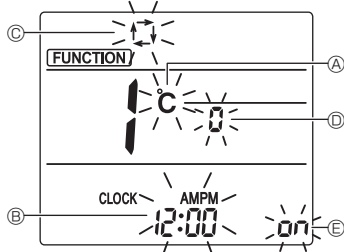

Fig. 4-11
3. Check that function No. "1" is displayed, and then press the **SET** button ③.
- The Screen display setting screen will be displayed. (Fig. 4-11)
- Press the **UP** button ④ to change the function No.
4.12.2. Changing the temperature unit (Fig. 4-11 Ⓐ)
- Press the **TEMP** button ⑤.
- Each time the **TEMP** button ⑤ is pressed, the setting switches between **C** and **F**.
4.12.3. Changing the time display (Fig. 4-11 Ⓑ)
- Press the **TIME** button ⑥.
- Each time the **TIME** button ⑥ is pressed, the setting switches between **12:00^{AMPM}** and **24:00^{AMPM}**.
4.12.4. Changing the AUTO mode (Fig. 4-11 Ⓒ)
- Press the **MODE** button ⑦.
- Each time the **MODE** button ⑦ is pressed, the setting switches between **Ⓜ** and **Ⓜ**.
4.12.5. Changing the pair No. (Fig. 4-11 Ⓓ)
- Press the **UP** button ④.
- Each time the **UP** button ④ is pressed, the pair No. 0-3 changes.